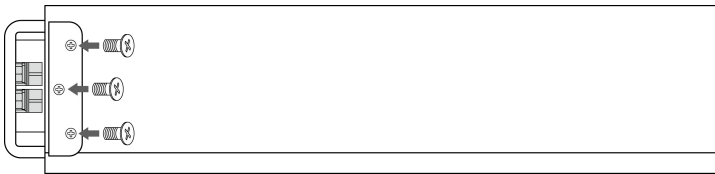

Figure 4-2
- a. Use the 6 screws of M4*8 to fix the battery pack Fixed Ears the both sides battery, as show in Figure 4-2.